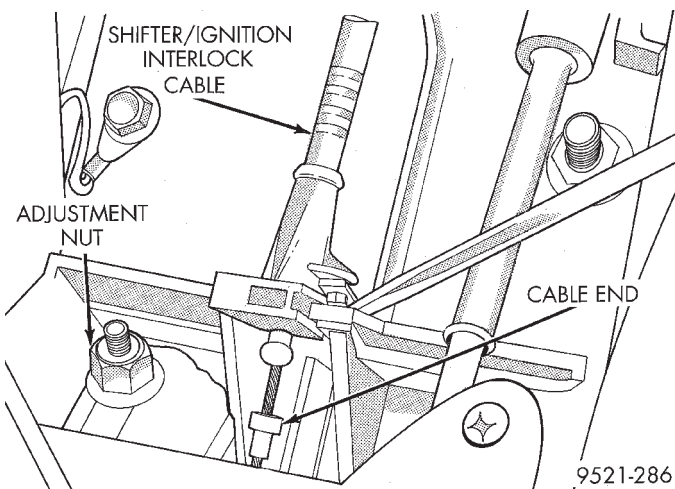

Fig. 252 Interlock Cable
(5) Move ignition key to the RUN position.
(6) Remove the interlock cable from the shifter housing (Fig. 252). Slide the cable out of the groove in the interlock lever.